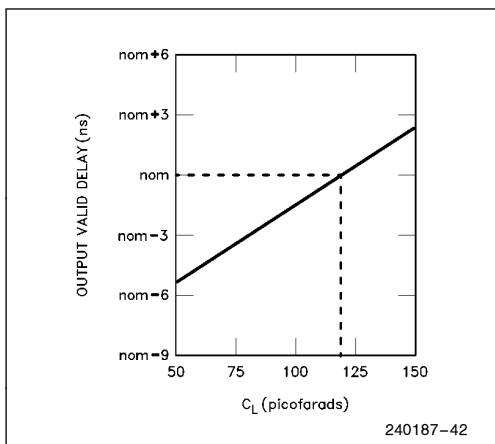

Figure 7.8. Typical Output Valid Delay versus Load Capacitance at Maximum Operating Temperature ($C_L = 120$ pF)
- 4: Tested with C_L set at 50 pf and derated to support the indicated distributed capacitive load. See Figures 7.8 though 7.10 for the capacitive derating curve.